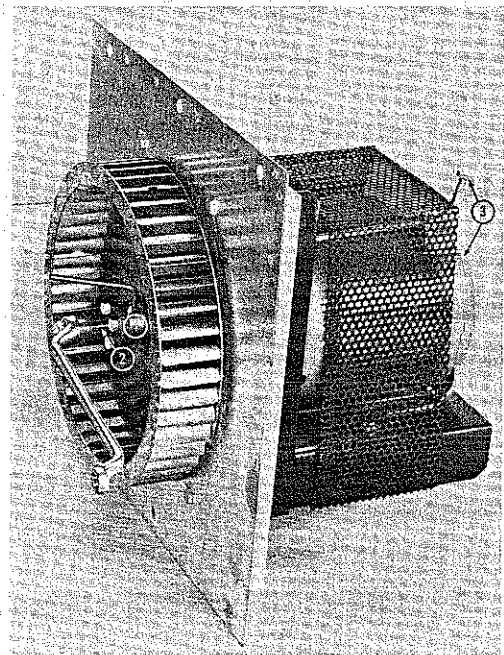

FIG. 6
3. Loosen the two socket head set screws on the wheel hub. (Figure 6, No. 1)
4. Screw 3/8-16 bolt into threaded disc on front of blower wheel hub. (Figure 6, No. 2)
4. Tighten both Allen set screws (Figure 6, No. 1).
On oven installations which are accessible from the back, oil motor yearly at oil caps, (Figure 6, No. 3). On installations which are not accessible from the back, remove motor as in (g) and oil. CAUTION: Do not over oil.